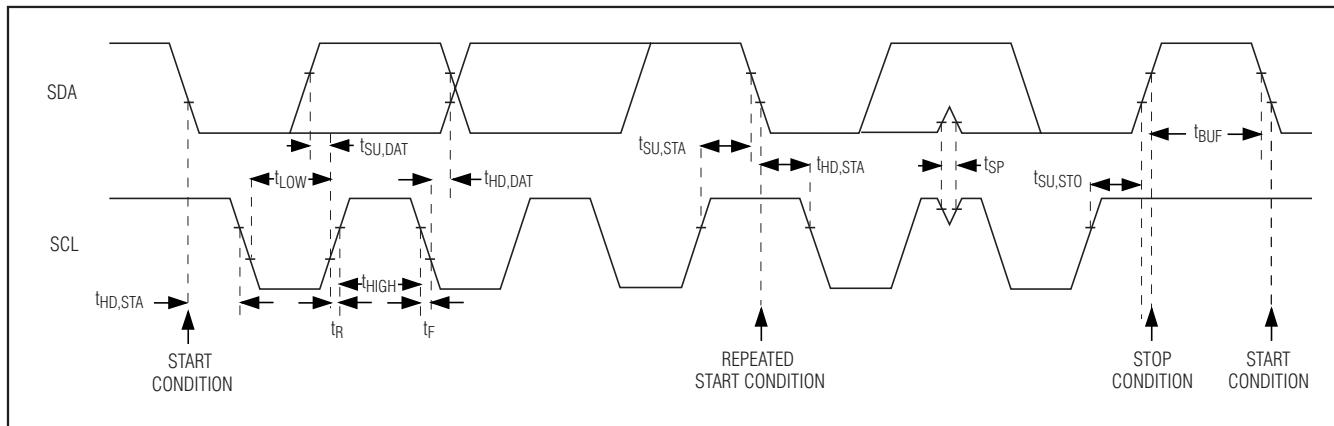

Figure 4. I2C Serial-Interface Timing Diagram
The MAX9665/MAX9666/MAX9667 feature an I2C/SMBus™-compatible, 2-wire serial interface consisting of a serial-data line (SDA) and a serial-clock line (SCL). SDA and SCL facilitate communication between the devices and the master at clock rates up to 400kHz. Figure 4 shows the 2-wire interface timing diagram. The master generates SCL and initiates data transfer on the bus. A master device writes data to the devices by transmitting the proper slave address followed by the register address and then the data word. Each transmit sequence is framed by a START (S) or REPEATED START (Sr) condition and a STOP (P) condition. Each word transmitted to the MAX9665/MAX9666/MAX9667 is 8 bits long and followed by an acknowledge clock pulse. A master reading data from the devices transmits the proper slave address followed by a series of nine SCL pulses. The devices transmit data on SDA in sync with the master-generated SCL pulses. The master